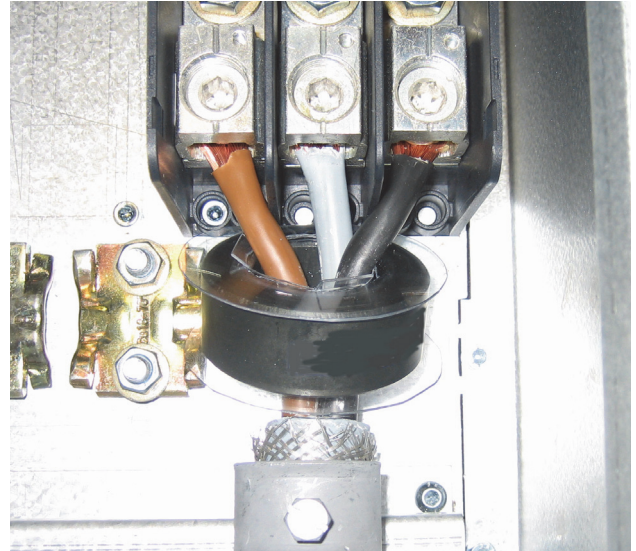

Fig. 49 Ferrite core mounted on the motor cables
Mount the ferrite core and its isolation sheet (included in the delivery) on the three motor phases U, V & W. The protective earth (PE) and the screen of the cable should be mounted outside the core see fig. 49.